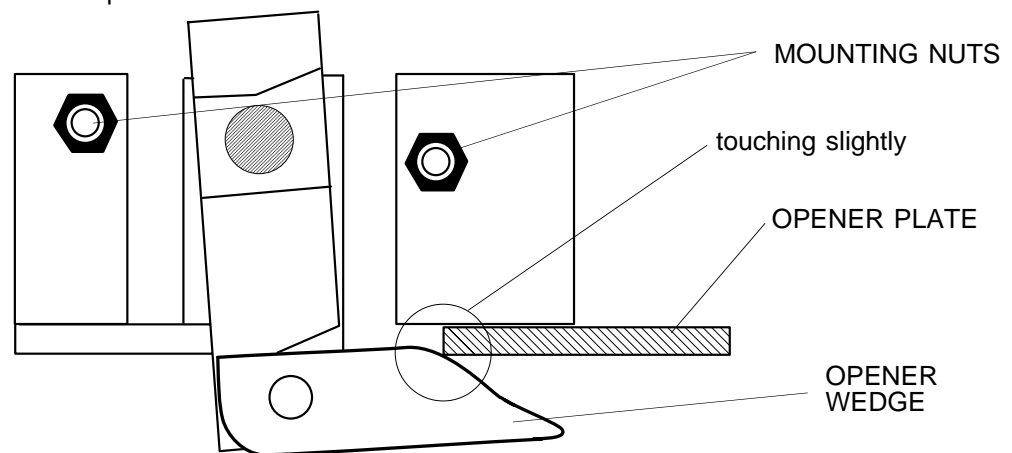

figure 3
2. If the OPENER SHOVEL is only just touching the OPENER PLATE (figure 3), proceed with step 5, else proceed with step 3 .